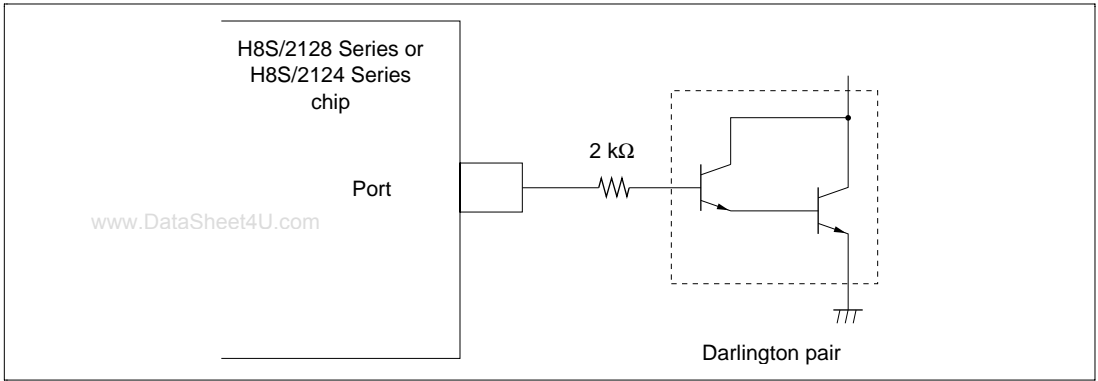

Figure 23.1 Darlington Pair Drive Circuit (Example)
2. When driving a Darlington pair or LED, always insert a current-limiting resistor in the output line, as show in figures 23.1 and 23.2.